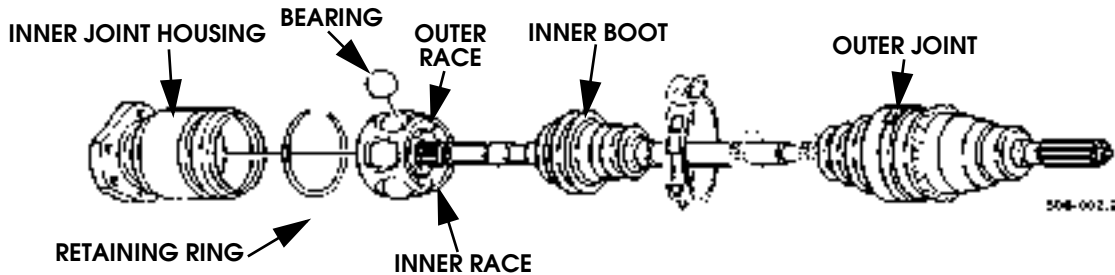

Figure 9-46: Halfshaft Boot Replacement
5. Loosen two clamps securing inner boot to inner joint housing and shaft (Figure 9-46).
10. Position six ball bearings into bearing assembly and retain with a slight amount of grease (Figure 9-46).